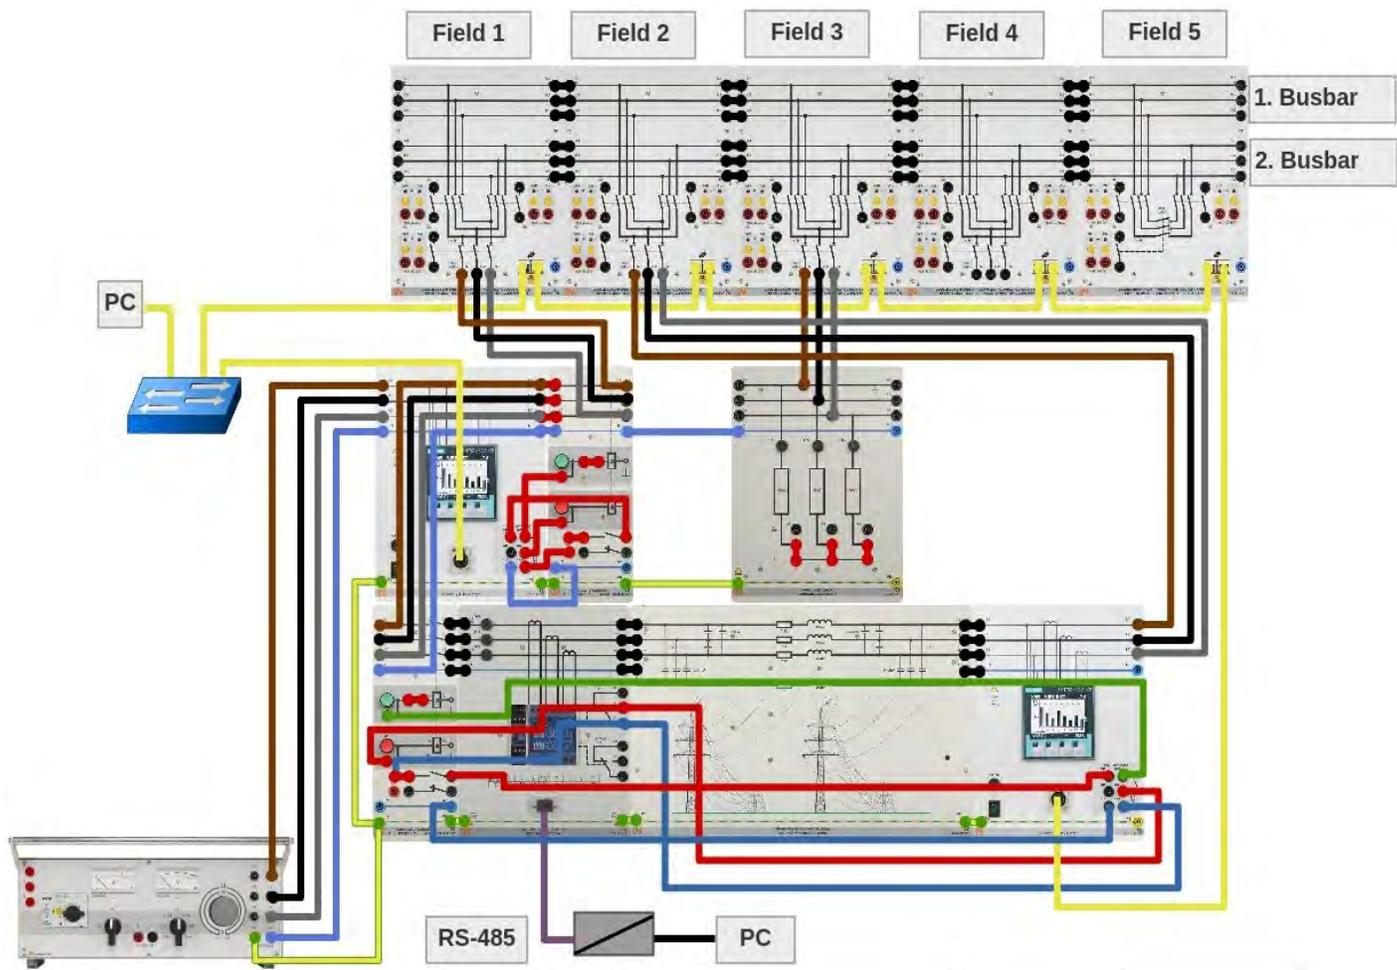

Figure 1:
1. Assemble the circuit in accordance with the layout and wiring diagram of Figure 1.
1. Keep the circuit in accordance with the layout and wiring diagram of Figure 1.